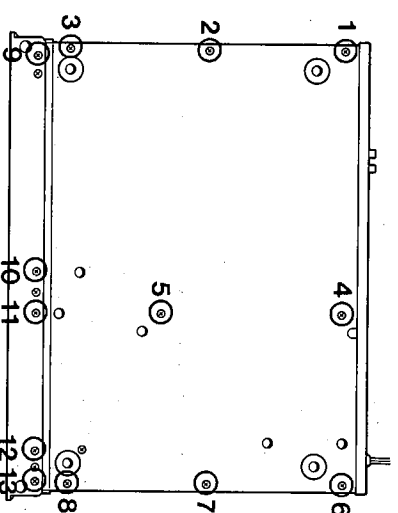
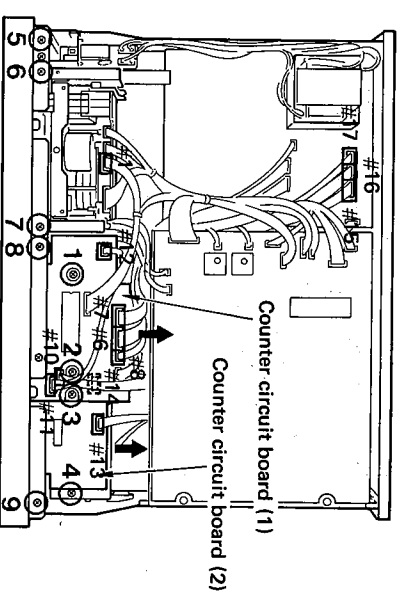

Fig. 2
Fig. 3
Remove screws ① through ⑧ in fig. 2 and then remove the bottom cover.
- Remove screws ① and ② in fig. 3 and pull the counter circuit board (1) backward gently (connected to the front panel by connectors.)
- Remove screws ③ and ④ in fig. 3 and pull the counter circuit board (2) backward gently (connected to the front panel as well as counter circuit board (1).)
- Remove screws ⑨ through ⑬ (binding screws only) in fig. 2 and screws ⑤ through ⑧ (binding screws only) in fig. 3, and then pull the front panel forward gently.